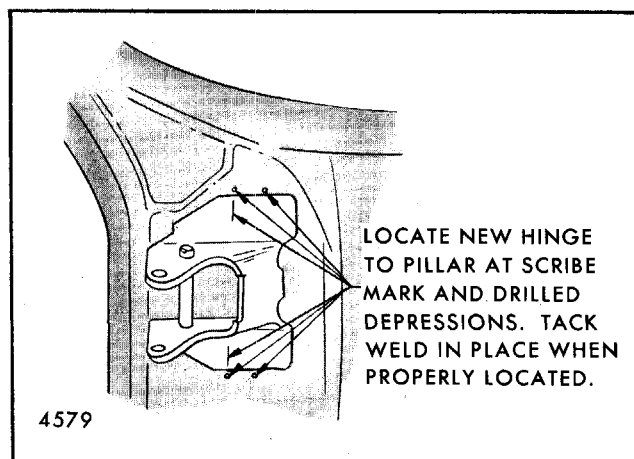

Fig. 5-98-Body Side Hinge Strap Installation - "X" Styles
2. Locate replacement hinge to scribe marks and drill depressions identifying 1-3/4" dimension (Fig. 5-98). Tack in place with arc weld at upper and lower hinge tabs.